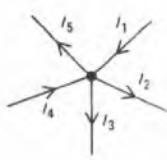

Fig. 1
**Q1** (a) Use Kirchhoff's laws to obtain an equation for each of the circuits in Figs. 1 and 2.
**A1** (a) Kirchhoff's first law states that the algebraic sum of all the currents at a junction must be zero. Fig. 1 shows currents  $I_1$  and  $I_4$  entering a junction, and currents  $I_2$ ,  $I_3$  and  $I_5$  leaving. Therefore,